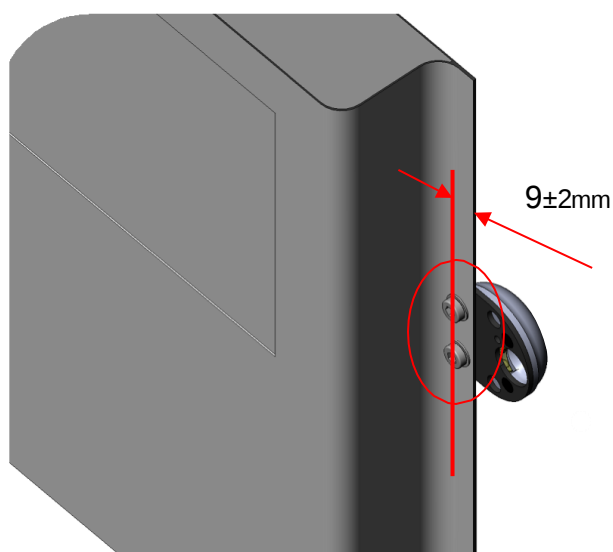

Fig.5
- The position of the first two 8-holes is approximately 9 ± 2 mm from the vertical edge of the opening door (see fig. 5). This is a very resistant tailgate surface. The indicated tolerance is intended to allow the cylindrical head of the M8 pin to be positioned within the edge and never beyond it.
Before drilling, check that the head of the M8 pin is contained within the edge (see fig. 5).